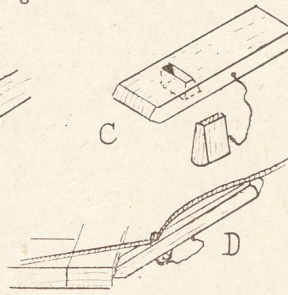

Fig. 3—The webbing stretcher
For this job a webbing strainer will be necessary, to bring the webbing up taut, before tacking it to the wood. A simple home-made form of strainer is shown in Fig. 3 (C), and is well worth making, as it is an invaluable tool for upholstery jobs any time. It is a length of hardwood,  $\frac{1}{2}$ in. to  $\frac{3}{4}$ in. thick,  $3\frac{1}{2}$ ins. wide and about 9ins. long.